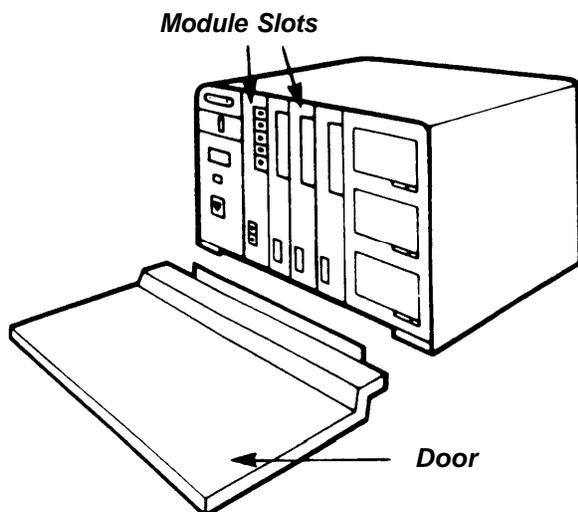

Figure 2.
1. Open and remove the control unit door (Figure 2).